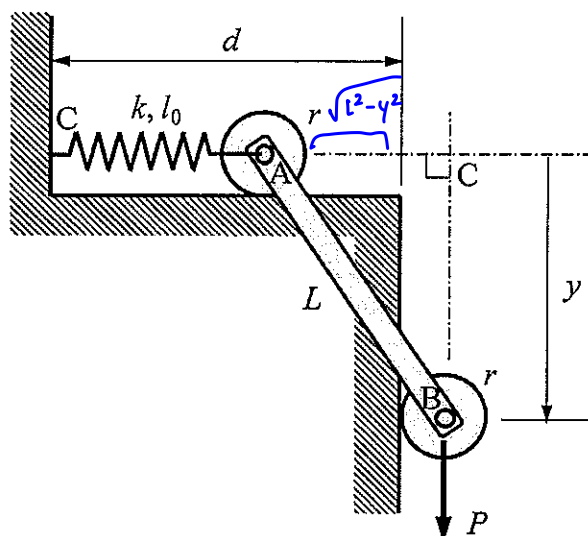

Figure 1
1. This paper contains **FOUR (4)** questions and comprises **SIX (6)** pages.
- 1(a) Figure 1 shows a rigid uniform bar AB of length L supported on rigid rollers pin-jointed at the bar ends A and B. A spring of stiffness k and free length l_0 connects the end A of the bar to a rigid wall at C. A load P acts at the end B of the bar as shown. Ignore friction at all the joints and the weights of all the parts.